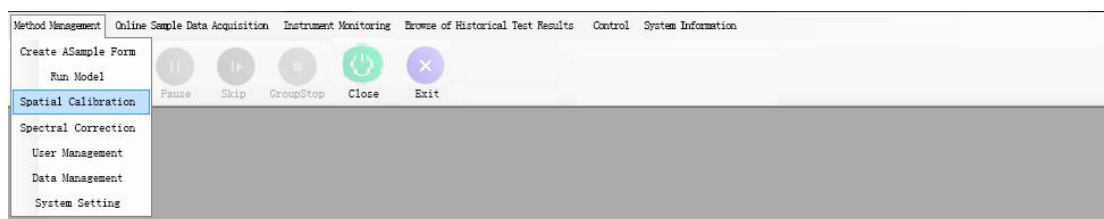

Figure 14. Spatial Calibration
(1) Select the "Method Management", "Space Calibration" in the menu of the software interface in turn. As shown in Figure 14.